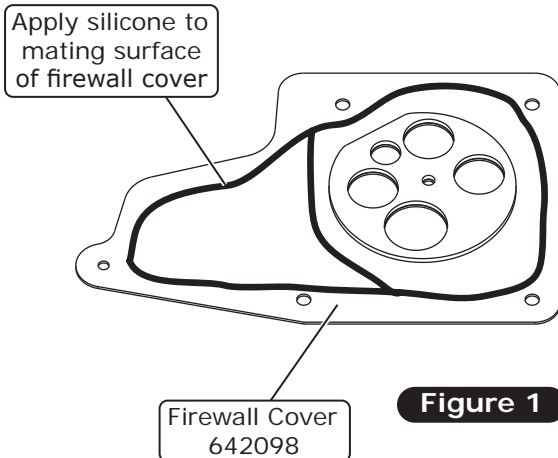

Figure 1
- Apply silicone to the mating surface of the firewall cover (See Figure 1, below).